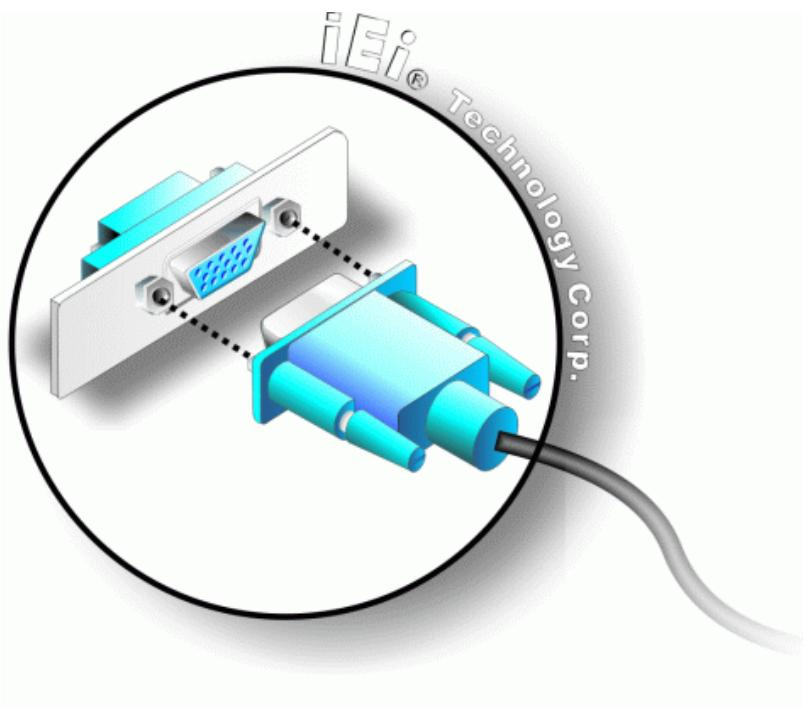

Figure 5-22: VGA Connector
Step 2: Insert the VGA connector. Insert the DB-15 connector of a VGA monitor into the DB-15 connector on the external peripheral interface. See **Figure 5-22**.